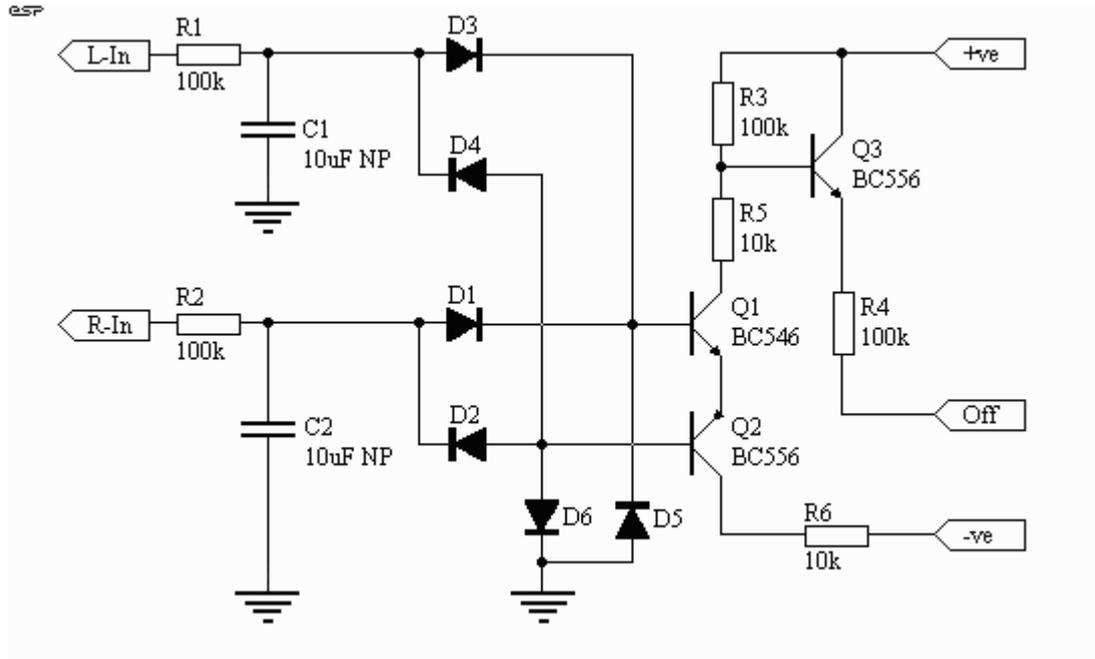

Figure 1 - Basic DC Detector Circuit
The detector circuit shown in Figure 1 (1) is simple and works well, and as shown will not trigger with a 30V RMS signal at 5Hz, but operates in 60ms with 30V DC applied, and in 50mS with a 45V DC supply. This should be sufficient for most applications, and allows the use of a non-polarised electrolytic capacitor in the filter. These are cheap, small and quite adequate for this purpose.